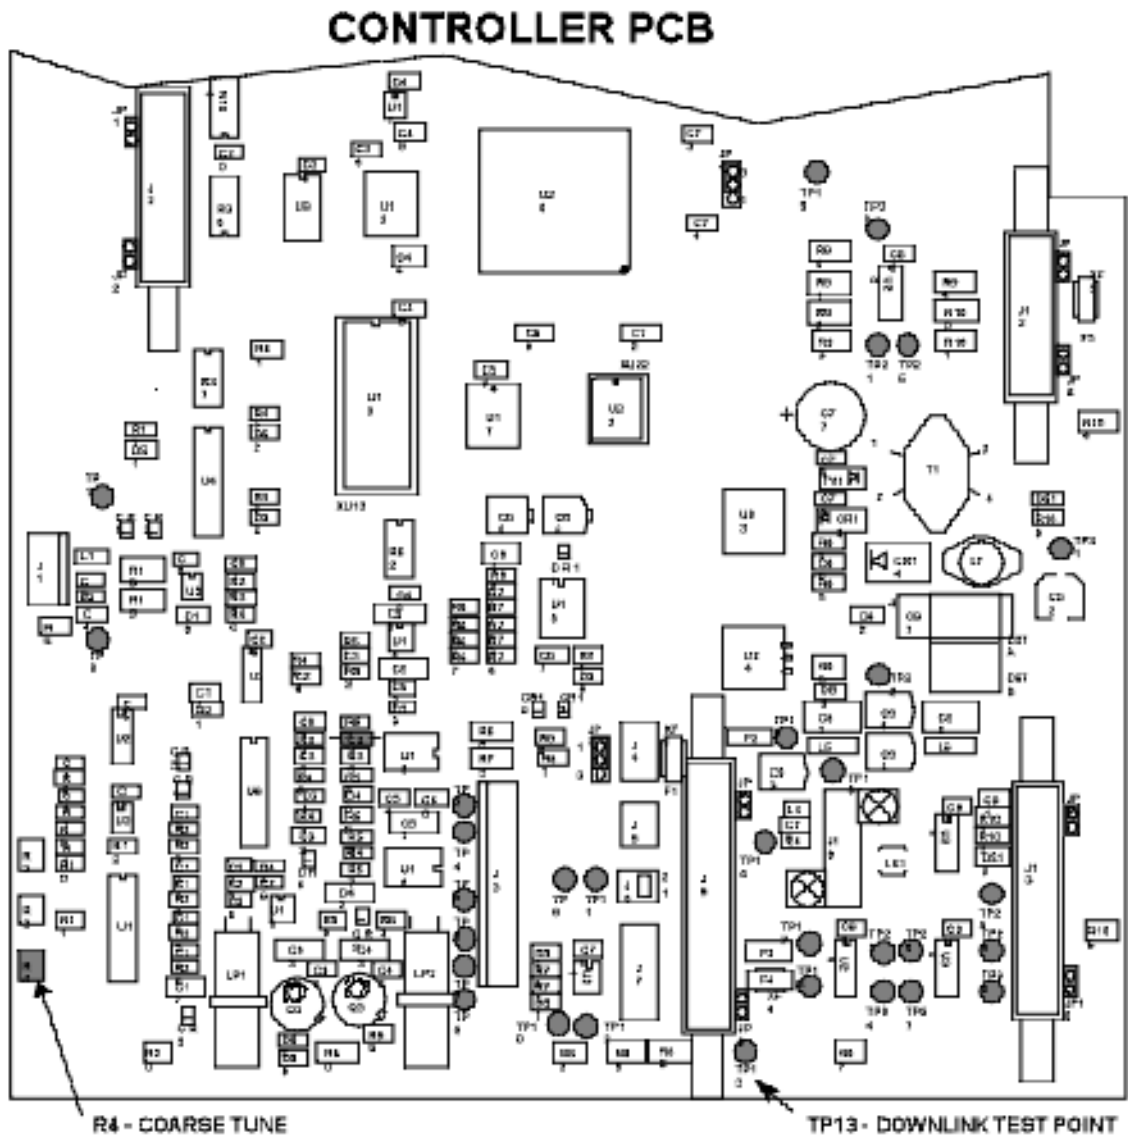

Figure: 4-1 Controller PCB Coarse Tune Adjustment
- (3) Locate TP13 on the Controller PCB, see Figure: 4-1. Using a Oscilloscope, carefully place probe to TP13.
- (4) Locate R4 (Coarse Tune) on the Controller PCB, Figure: 4-1, and adjust R4 fully CW, then rotate CCW for first video peak.
- (5) Locate R12 (Tune Bar Deflection Adjustment) on the Receiver assembly and adjust R12 for a tune bar deflection of 5 to 7 divisions.
- (6) No further adjustments are required, disconnect test leads from the Controller PCB.